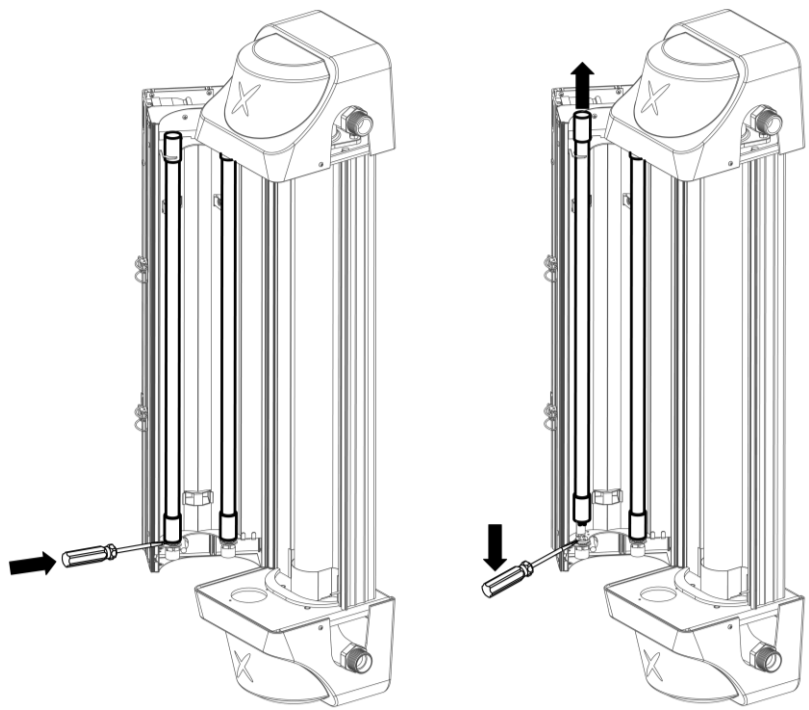

Figure 7.3
**Step 2:** Use a slotted screwdriver and pry the lamps up between lamp base and ceramic socket, see Figure 7.3